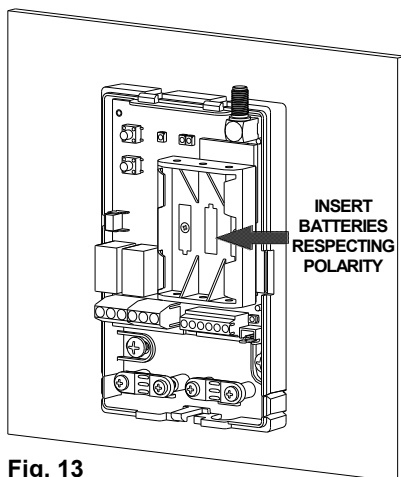

Fig. 13
- ⑧ Insert the batteries supplied according to the correct polarity (Fig. 13).